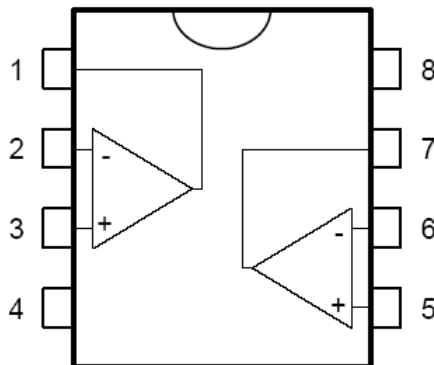
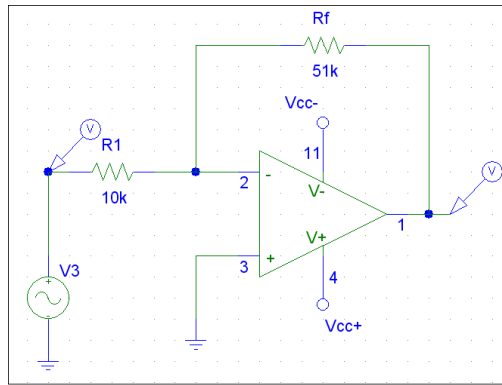

Fig. 1 TL072 operational amplifier pinning. Top view. Power supply: $4V_{CC-}$, $8 V_{CC+}$
Fig. 2 Inverting amplifier.
1. Solder circuit illustrated in fig. 2 using one of the amplifiers from TL072. **Warning! The pinning in fig. 2 is incorrect. Please use fig. 1.**